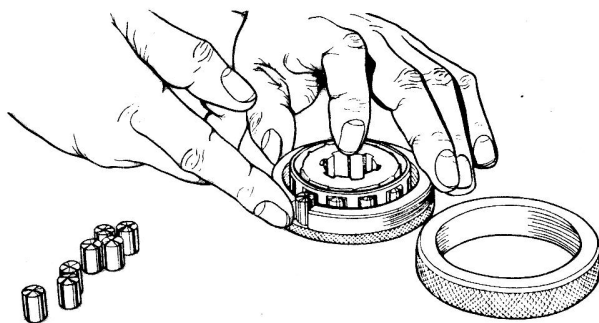

Fig.6.34. Assembly of the uni-directional clutch rollers
- 3 Replace the thrust washer and the unidirectional clutch inner member with the rollers and cage. Fitting of the rollers will be made easier if a fixture on the pattern of that shown in Fig.6.34 is used. Ensure that the spring is fitted correctly and that the cage pushes the rollers up the ramp on the inner member.